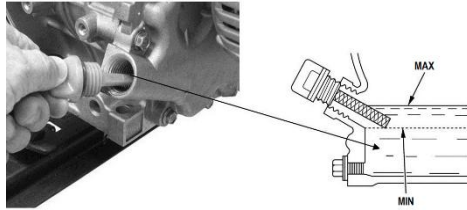

Fig.11
1. Remove the cover/dipstick and wipe it clean (Fig. 11).